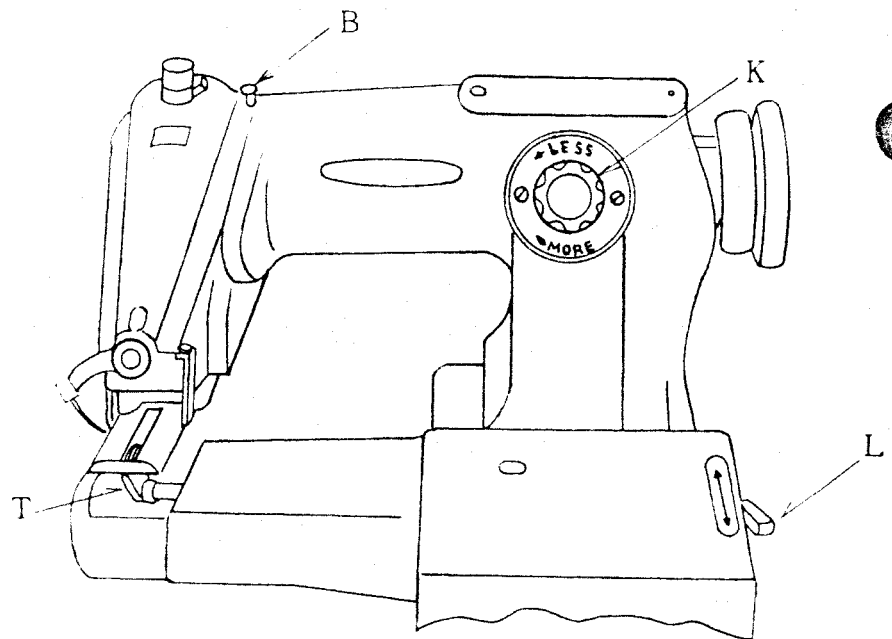

Fig. 4
A. While keeping knee lifter depressed, turn handwheel (away from operator) until the needle's eye is directly above the oscillating rib "T" mounted in the work arm. (Fig. 4, page 4).
C. If rib should cause needle to deflect upward, however little, turn adjustment knob "K" (Fig. 4) gradually counter-clockwise (direction "LESS") to eliminate contact.
knob "K" (Fig. 4) clockwise for more penetration and counterclockwise for less penetration. The dial surrounding the adjustment knob shows clearly the direction of turning to obtain the needed degree of needle penetration.
When this lever points toward the operator, as shown in Fig. 4, the needle catches the material at each stitch. Pushing lever "L" to the rear so that it points toward the handwheel will activate the skip-stitch device whereby the needle will penetrate the material at every other stitch.